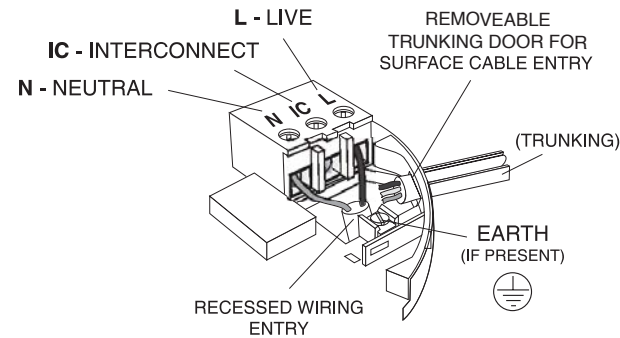

Figure 3
5. If the mains wires are recessed (coming through a hole in the ceiling), bring the wires to the terminal block through the rear hole in the mounting plate as shown in *Figure 3*.
- (a) position the mounting plate so the cable trunking is as shown in *Figure 3*.
6. The house wiring must then be connected to the terminal block on the Ei168RC **RadioLINK** Base as follows (see *Figure 3*):